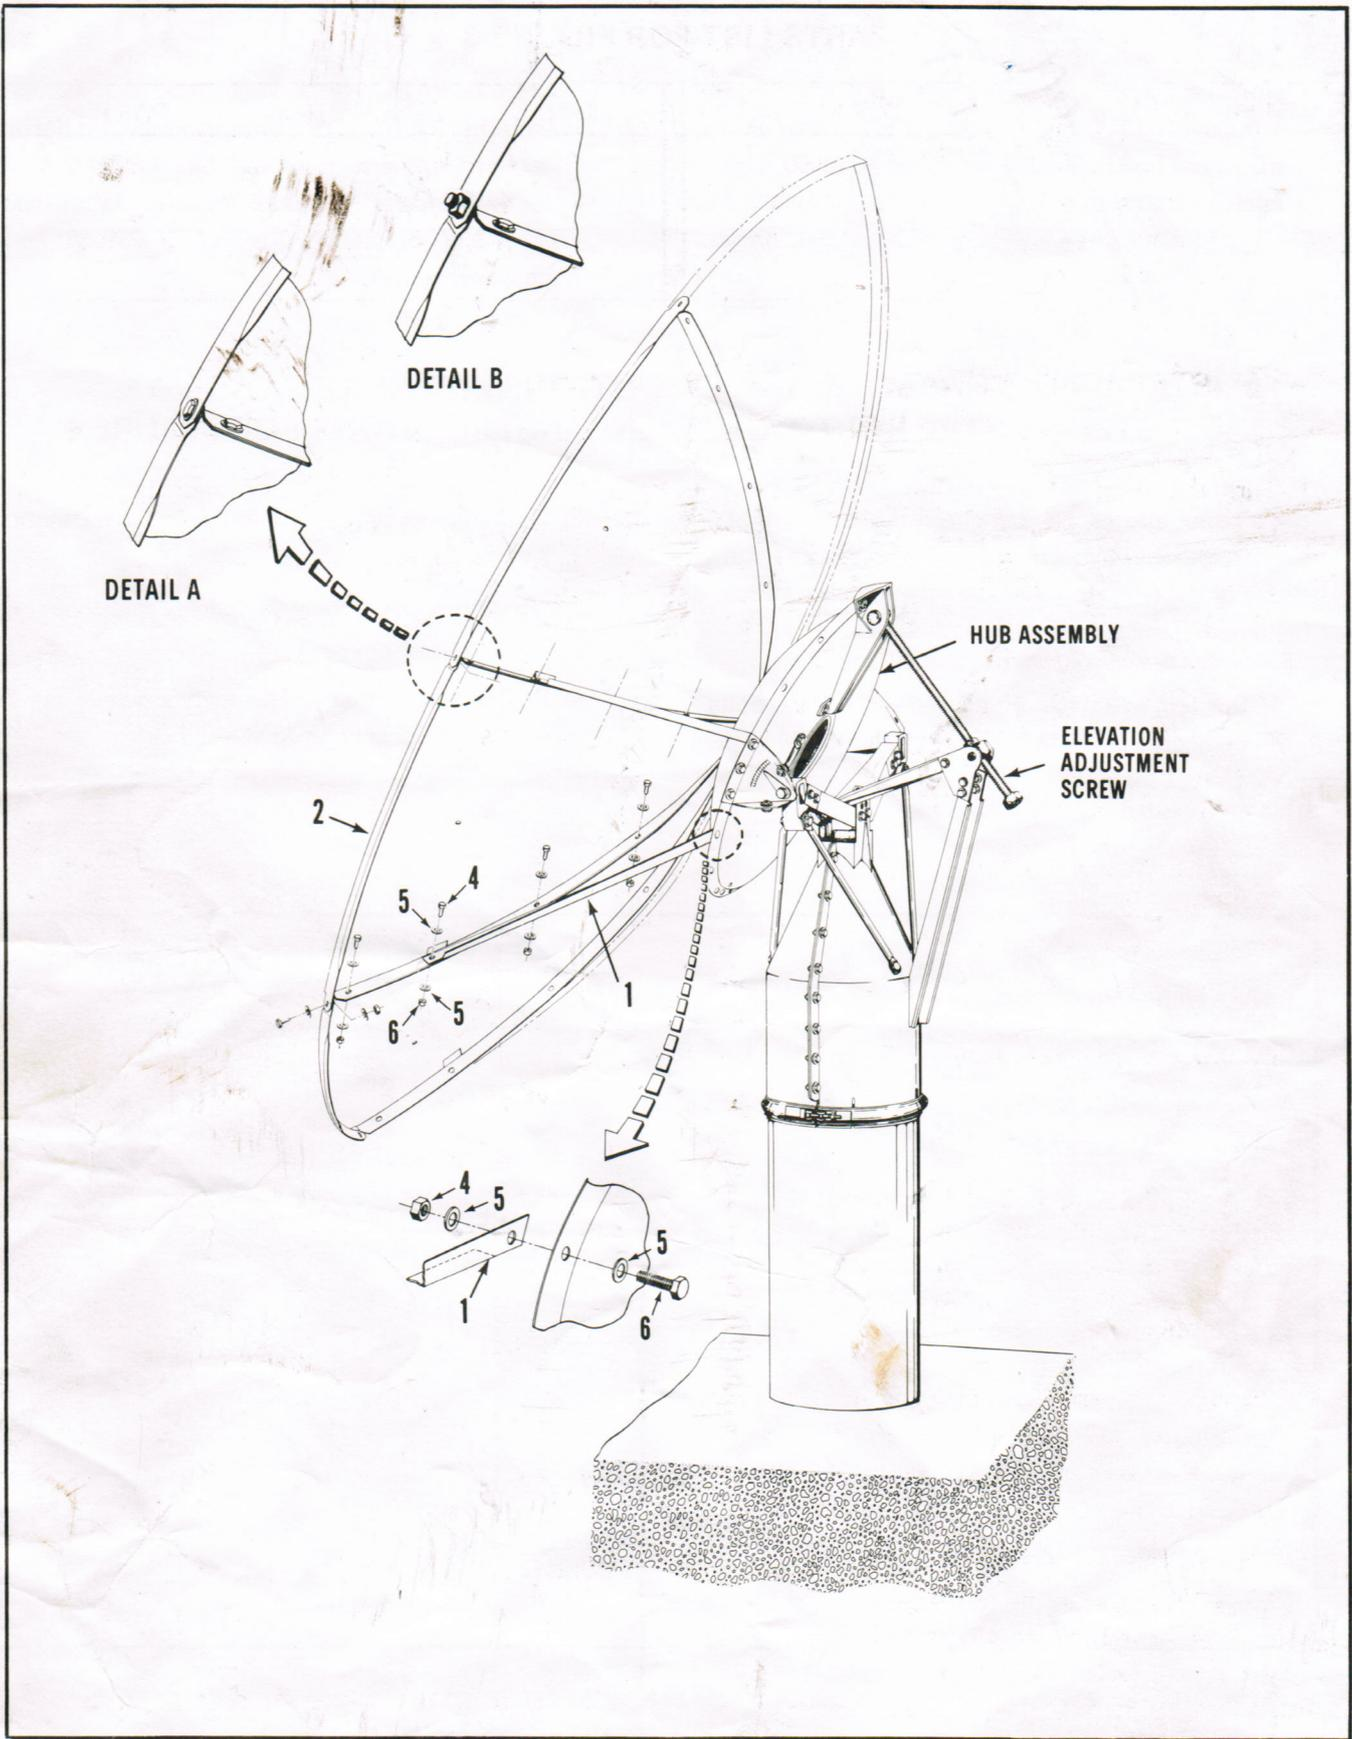

Figure 3. Assembly of Panel Braces and Dish Panels to Hub
PARTS LIST FOR FIGURE 3
The flanges at the perimeter of two panels should mate together as shown in detail A of figure 3. If a 3.2 meter extender kit is being installed with your 2.8 meter reflector at this time, insert the outside flange bolts with threads facing out as shown in detail B.
7. Install all remaining hardware for each panel as shown in figure 3, but do not tighten. If you are not installing the 3.2 meter extender kit at this time, follow the bolt tightening instructions below. Otherwise, go to step 8.